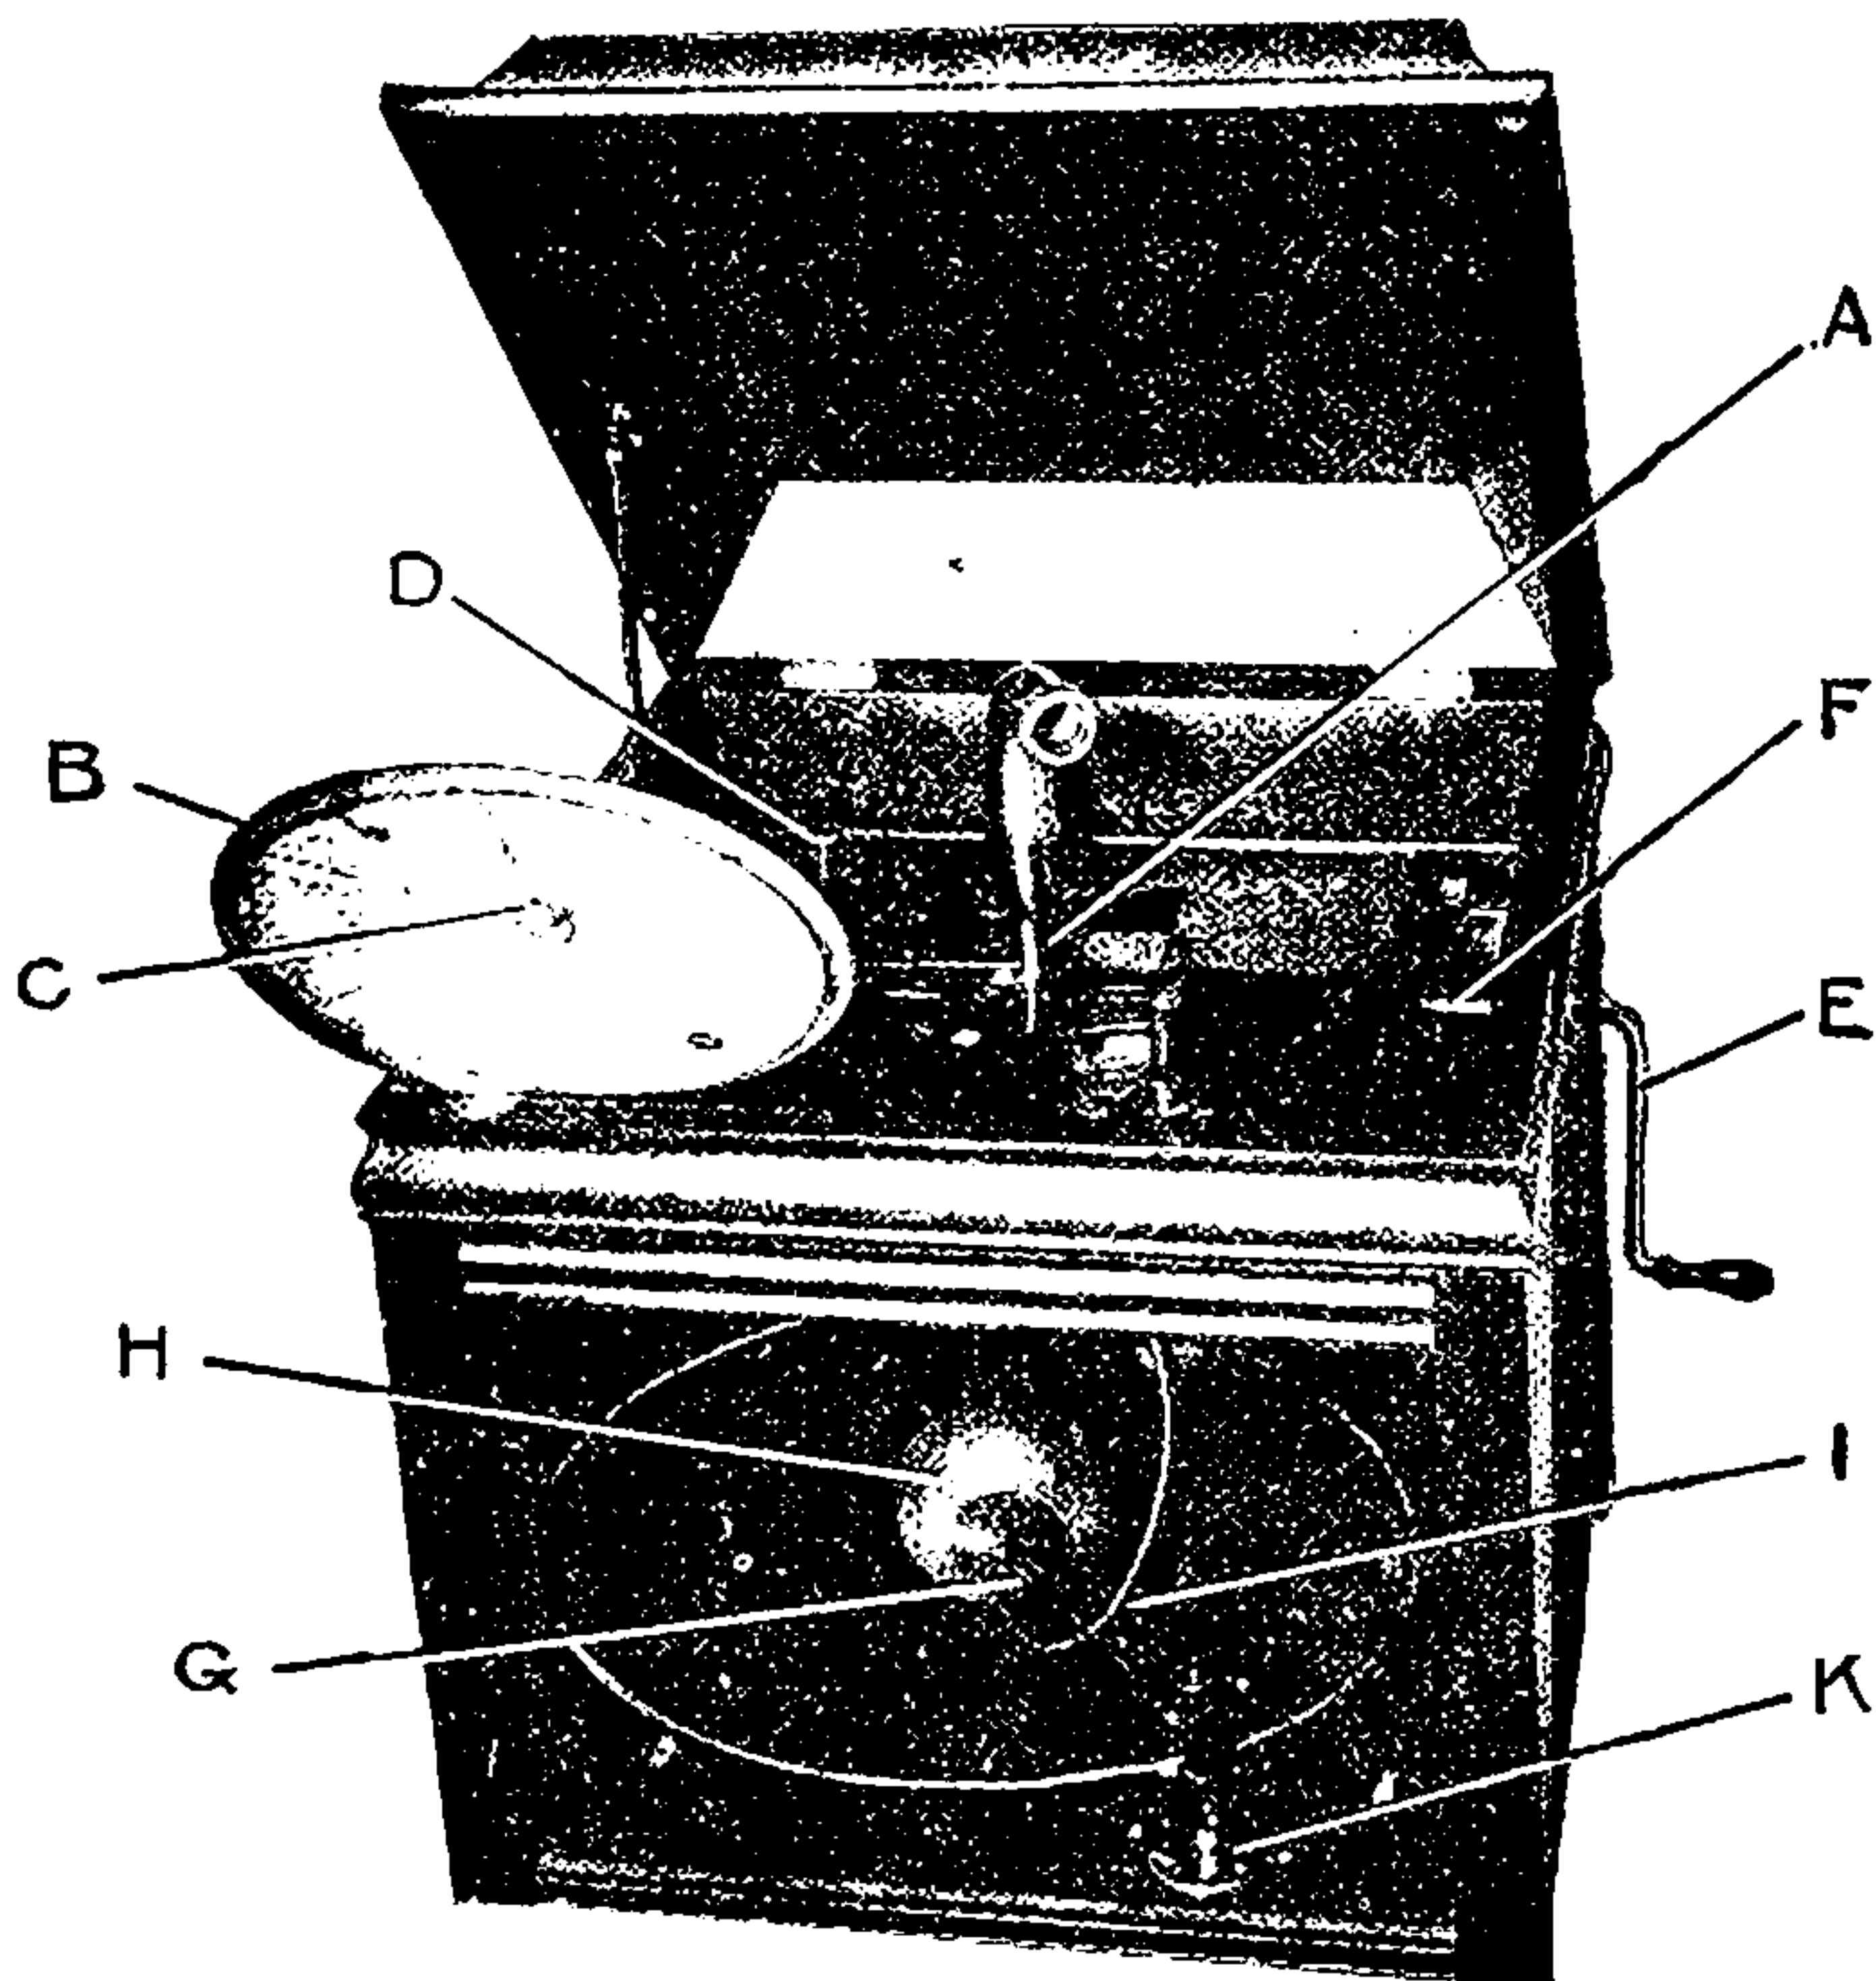

Fig. 1
Refer to Fig. 1.
- K (Fig. 1) Horn pivot bearing (5 drops).